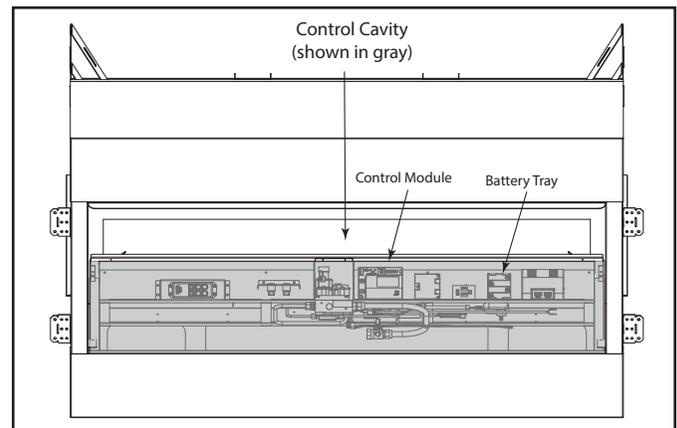

Figure 8.2– Control Cavity Location
The IntelliFire™ Plus ODS intermittent pilot ignition system comes with a battery backup system that enables the system to operate in a power outage. The system offers seamless transition from household AC power to battery backup. A factory-installed battery pack is located in the control cavity of the appliance. See Figure 8.2. Battery longevity and performance will be affected by long term exposure to the service temperatures of this appliance.
1. Access the control cavity of the appliance. See Figure 8.2 for location. Lift the screen frame off of the appliance and lift the access panel out of the front edge of the unit.
2. Locate the battery tray and insert four AA cell batteries. See Figure 8.2. Battery polarity must be correct or module damage will occur. A complete wiring diagram is included in the Electrical section of the appliance Installation Manual.